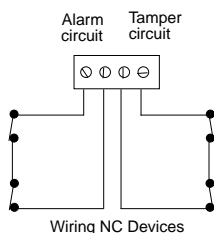

Figure 17. Wiring NC Devices to the 735R
2. Connect Normally Closed contacts wired as shown in Figure 17.